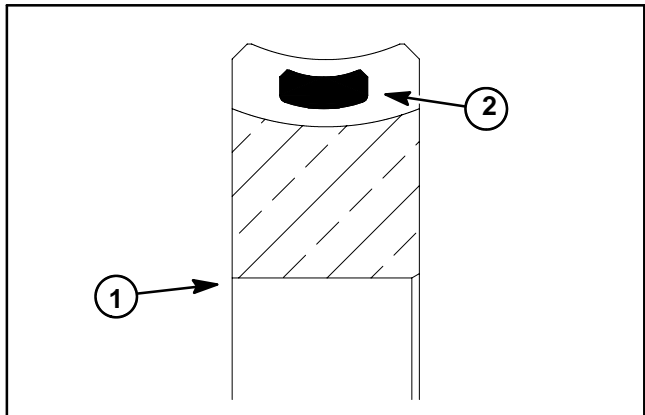

Figure 23
B. Install both output caps (items 6 and 25) (O-rings and seals not installed on caps) to gearbox housing. Torque cap screws **8 ft-lb (10.8 N-m)** while checking for binding of shaft. If shaft binds as screws are tightened, add additional shims.
D. Check gear contact by applying bluing compound to worm gear (item 3) teeth. Turn worm (input) shaft while putting a slight load on output shaft. Inspect contact on gear by viewing through drain plug opening in gear housing. Worm contact should be centered on both sides of the gear (Fig. 23). To adjust gear contact while maintaining shaft end play, move shim(s) from one side of the gear housing to the other.